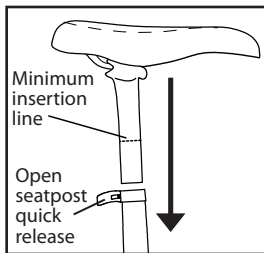

Fig. 25: Insert seatpost beyond minimum line.
A seatpost that is too high can cause damage to your e-bike or decrease your control and cause you to fall. Make sure the minimum-insertion line is in the frame (Fig. 25).
2. Insert the seatpost into the seat tube to a sufficient depth so that the minimum insertion line is no longer showing (Fig. 25).